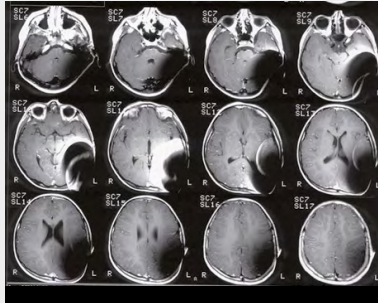

Figure 2: MR images obtained with a 1.5T scanner (8-year-old child)
- Image artefacts are to be expected (refer to Figure 2).